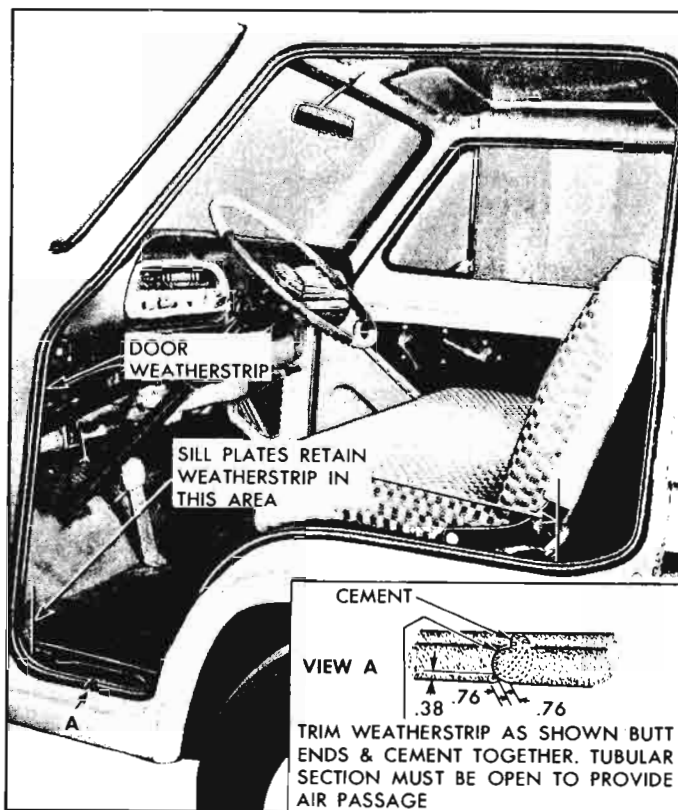

Fig. 10-51a—Door Opening Weatherstrip
Front door sealing incorporates an inner and outer seal. The inner seal is mounted on the body opening welding flange (fig. 10-51a) and goes completely around the periphery of the opening, while the outer seal is mounted on the door upper half. The weatherstrip material is closed cell sponge and is cemented on as shown in Figures 10-51a and 10-52a.
6. Install inner weatherstrip starting at the center of the rocker panel door opening, view A (fig. 10-51a).
7. Trim inner weatherstrip with a notch as shown in Figure 10-51a, and butt ends together.